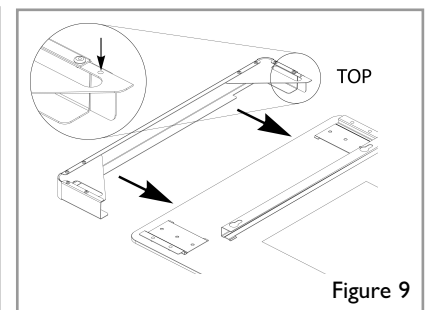

Figure 9
2. Slide on the side pieces ensuring that the grille fixing holes (shown) are aligned towards the top of the glass facia (as shown in figure 9).